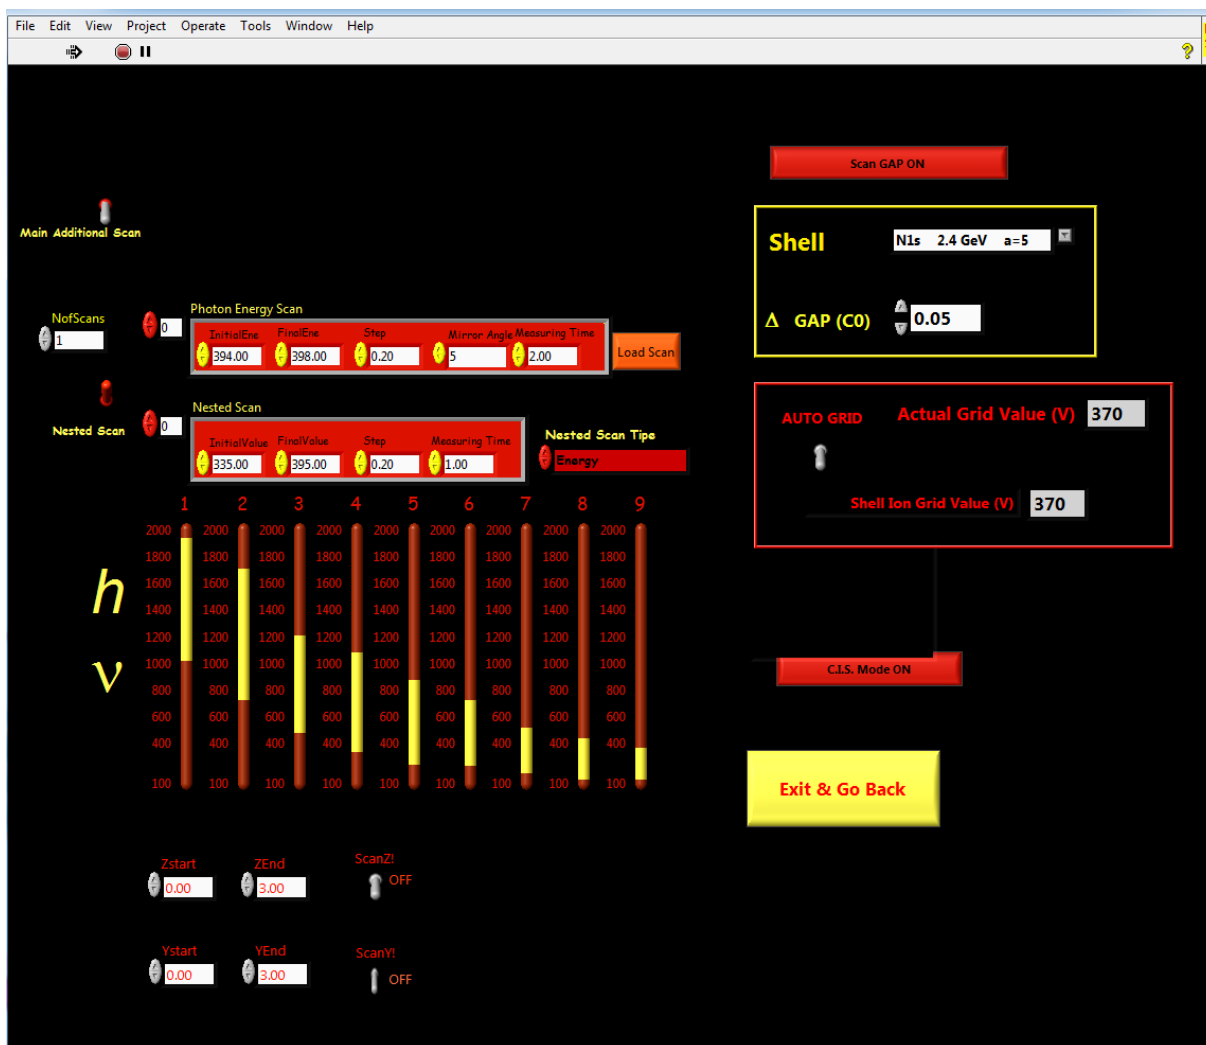

Figure 28: The NEXAFS Scan Panel of the ALOISA Acquisition Software.
4. **Activate the C.I.S Mode ON" button**, as shown in fig.28.